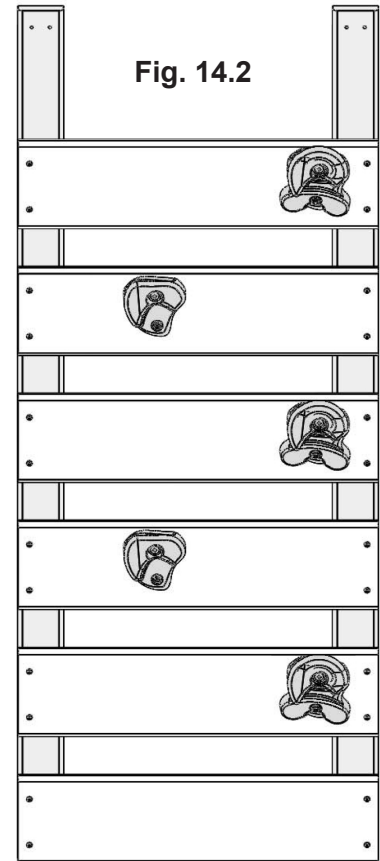

Fig. 14.1
- A:** Lay 2 (2776) Rock Rails down, side by side with angled edges facing down. (fig. 14.1)
- B:** Place (2779) Access Board on the bottom of each (2776) Rock Rail as shown in fig. 14.1. Make sure (2779) Access Board is flush to the outside and bottom edges of each (2776). Attach using 4 (S20) Wood Screws.
- C:** 7-5/8" (193.6 mm) down from the top of both (2776) Rock Rails place 1 (2781) Rk Board B, making sure the sides are flush to the outside edges of each (2776) Rock Rail. Attach using 4 (S20) Wood Screws. (fig. 14.1)
- D:** In between the (2779) Access Board and (2781) Rk Board B stagger 2 (2781) Rk Board Bs and 2 (2780) Rk Board As using 4 (S20) Wood Screws per board. Placing them as shown in fig. 14.1, this will prevent rocks from forming a straight line. Make sure the boards are evenly spaced and do not exceed 2-3/8" (60.3 mm) between boards.